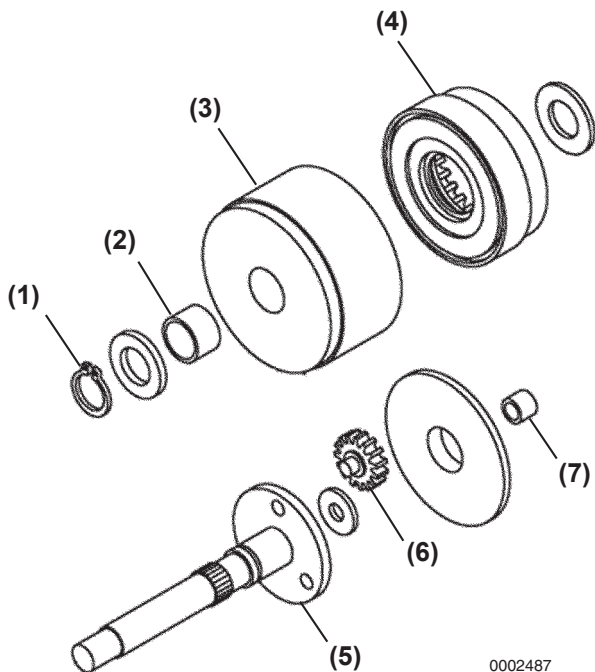

Figure 4-6-11
14. Remove the snap ring (**Figure 4-6-11, (1)**). Remove the pinion shaft (**Figure 4-6-11, (5)**), planetary gears (**Figure 4-6-11, (6)**), washers, and reduction gear (**Figure 4-6-11, (4)**) from the intermediate housing (**Figure 4-6-11, (3)**).
15. Inspect the intermediate bushing (**Figure 4-6-11, (2)**) and replace if worn or damaged.
16. Inspect armature bushing (**Figure 4-6-11, (7)**) and replace if worn or damaged.